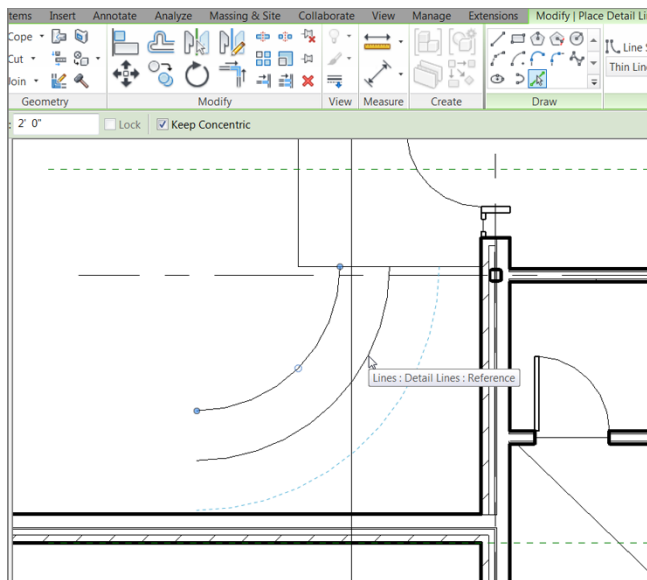

FIGURE 10.38: Adding two more arcs based on the centerline of the first
10. On the Options bar, add an increment of $2'-0"$ (600mm) to the Offset field (see Figure 10.38).
11. Offset the center arc to the right and then to the left, forming a $4'-0"$ (1200mm) overall winder, as shown in Figure 10.38.